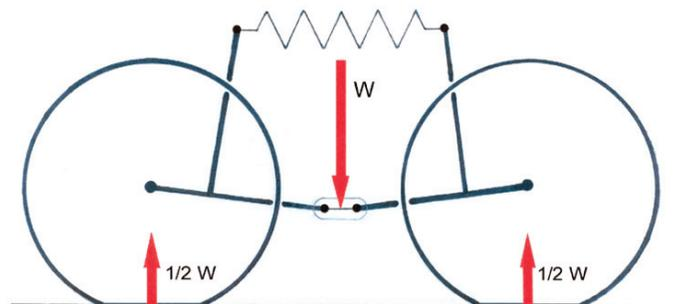
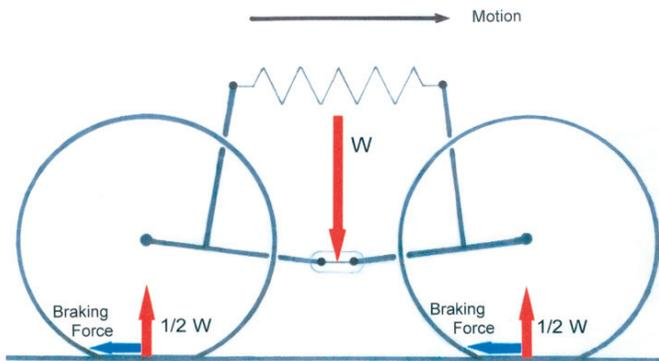

Fig. 1 System at rest or moving at a constant speed on level ground. Both wheels equally loaded.
Fig. 4 Bogie braking with Chuck Aulgur Anti Skid System.
The two wheels of the bogie are equally loaded only when the vehicle is at rest or moving at a constant speed on a level and even pavement (Fig. 1).
The pioneering insight of Chuck Aulgur has been to recognize that the key to a successful re-design of the bogie for improved braking was to eliminate the rotations of these supporting arms. This is accomplished by removing the non-moving braking hardware from the supporting arm and installing this hardware on a separate box which can react the braking force directly on the frame using a reaction bar connecting the box to the frame. Furthermore, by necessity the box is connected to the OEM supporting arm by a bearing in order **to induce no torque on both supporting arms (front and back)**, thus preventing their rotation when the brake is applied. This absence of arm rotation eliminates all the load shifting shown in items 1,2,3 above. With the Chuck Aulgur Anti Skid system the bogie will behave like Fig. 1 (two wheels equally loaded) to which braking forces will be added to each wheel with no arm rotation as shown on Fig. 4. Consequently all the four wheels of the two bogies remain (nearly) equally loaded